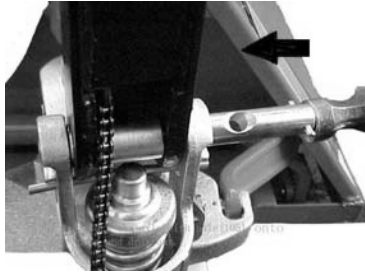

Fig. 2
**2.1** Insert the draw-bar onto the pump piston (303), then use a hammer to insert the axle with hole (105) into the hydraulic pump and draw-bar **from the right to left.** (See fig. 2 ).